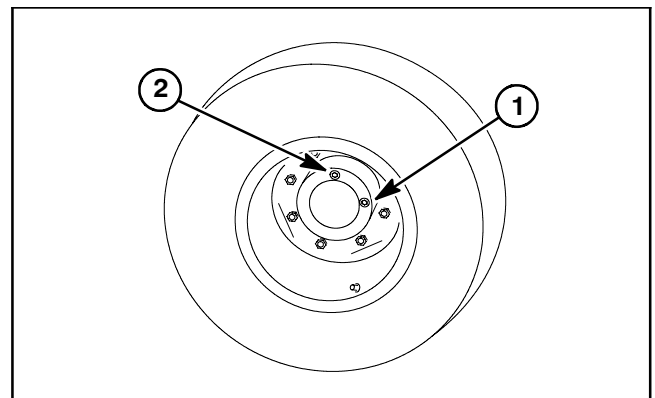

Figure 9
7. Fill planetary wheel drive/brake assembly with SAE 85W-140 gear lube (Fig. 9). Capacity is approximately 22 fl. oz. (0.65 liters) per wheel.